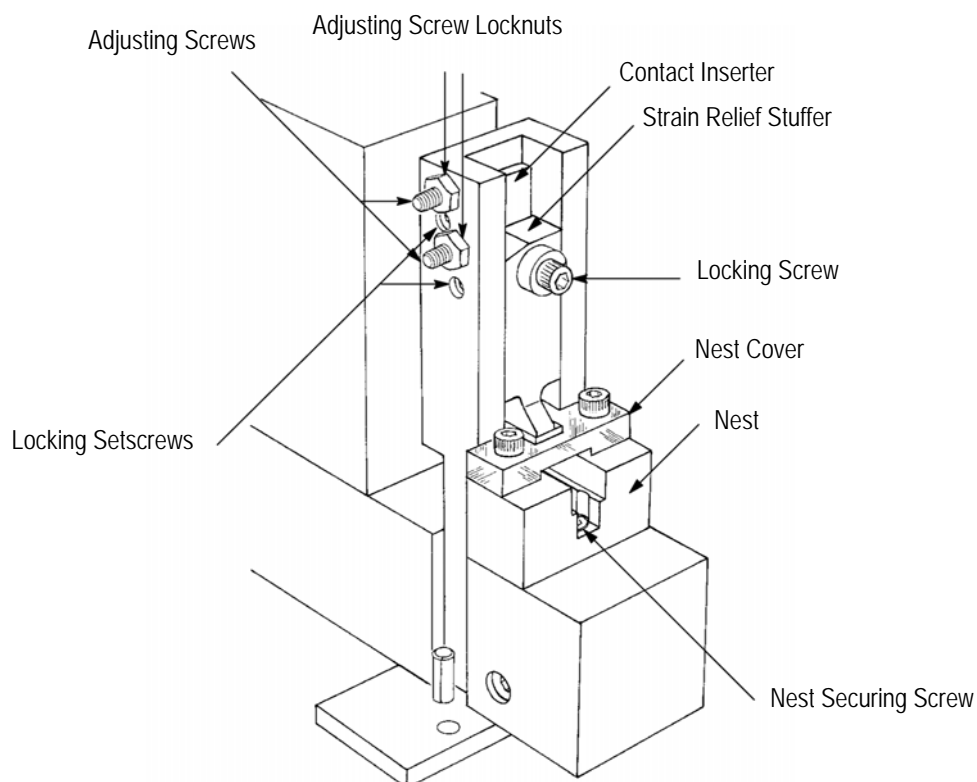

Figure 4
2. Loosen, but do not remove, the locking screw. See Figure 4.